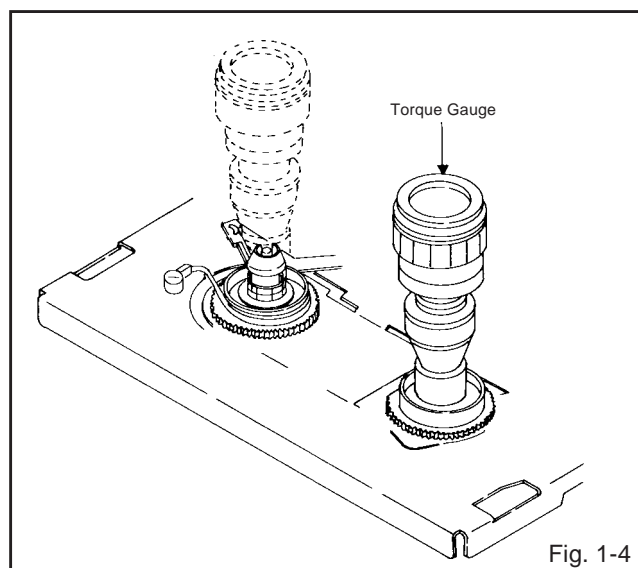

Fig. 1-4
1. Set torque gauge (**JG002G**) on take-up reel disk, and place unit in FAST FORWARD mode. (Refer to Fig. 1-4)
2. Set torque gauge (**JG002G**) on supply reel disk, and place the unit in REWIND mode. (Refer to Fig. 1-4).
(Take-Up Reel Brake) (Refer to Fig. 1-4)
(Supply Reel Brake) (Refer to Fig. 1-4)